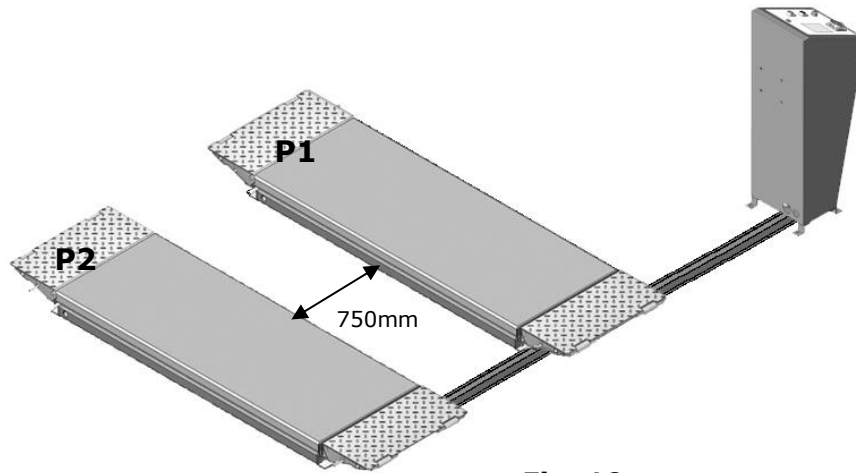
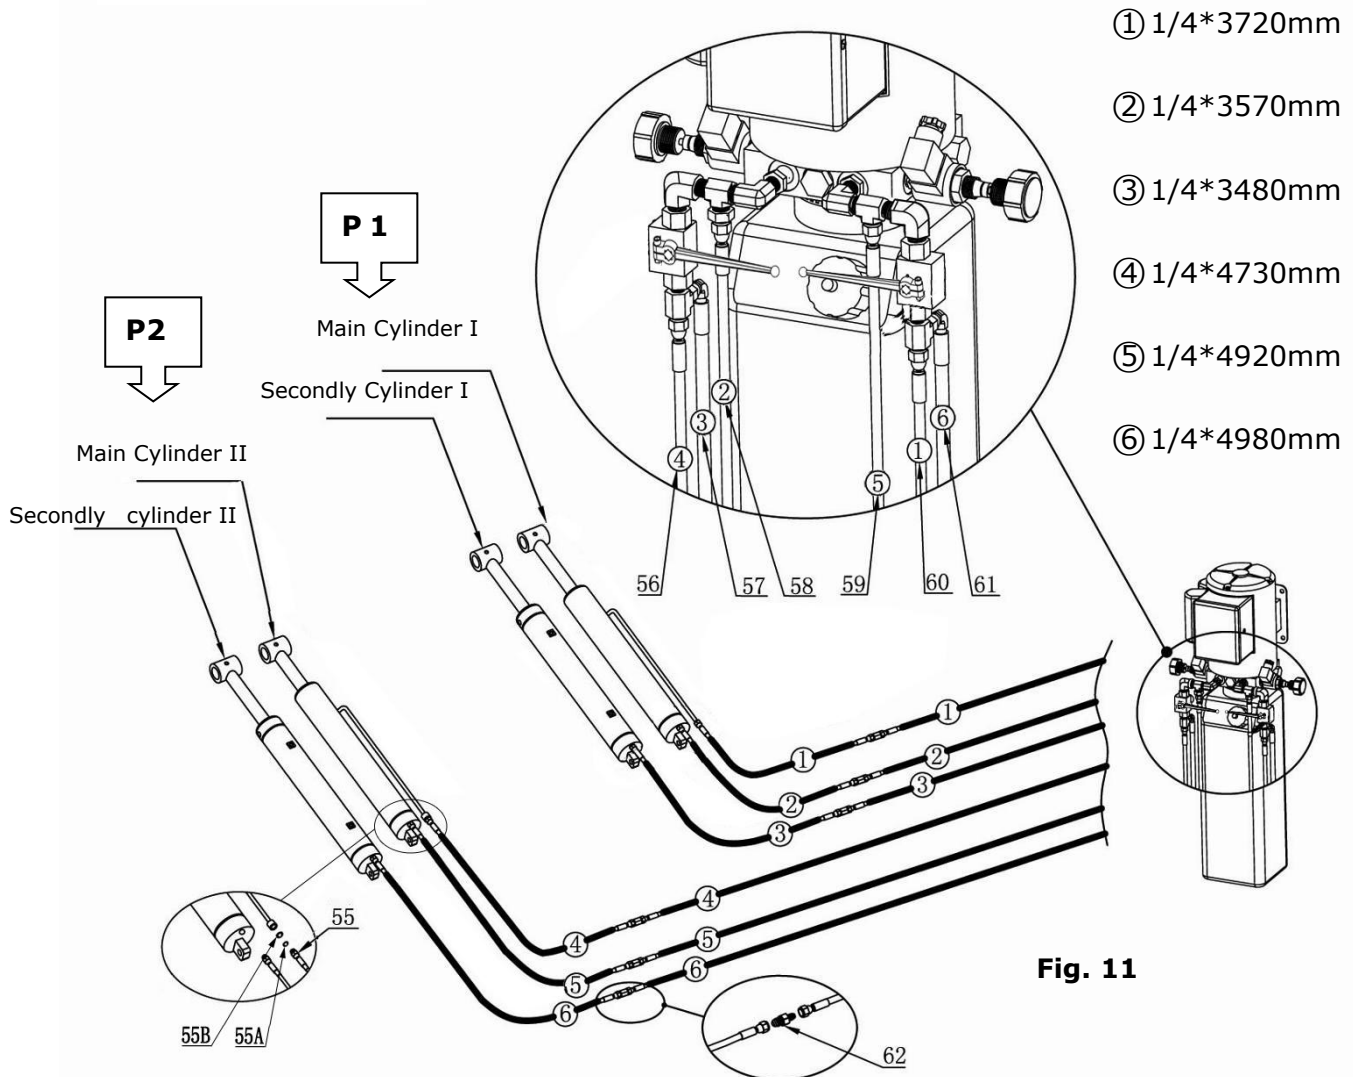

Fig. 10
Fig. 11
Layout the equipment on the selected location according to **Fig 10**, and connect the oil hose according to **Fig.11**.
1.1 Connect the power wire and limit switch wire according to the wiring diagram **(See Fig. 11)**.